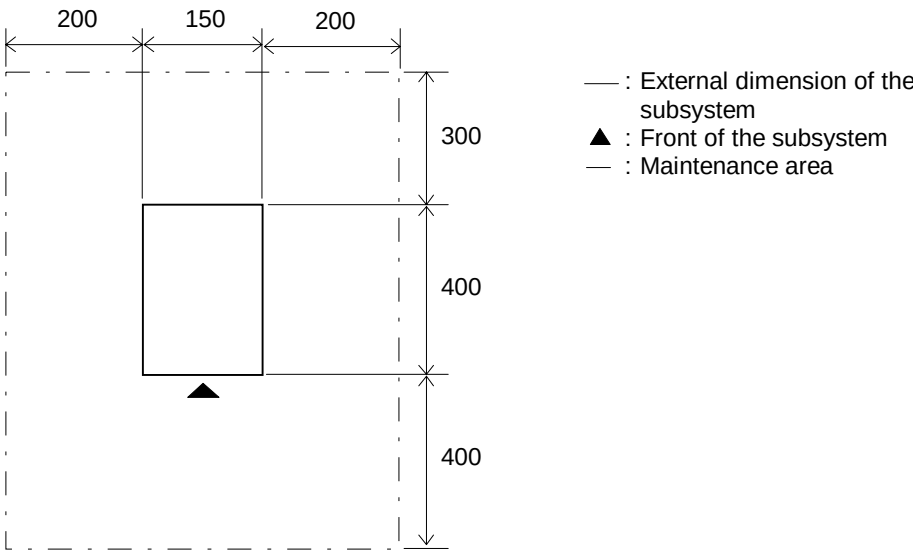

Figure 1.2.1 Maintenance Area
Figure 1.2.1 shows maintenance area for the DF350 disk subsystems. (Desktop (DK) type)